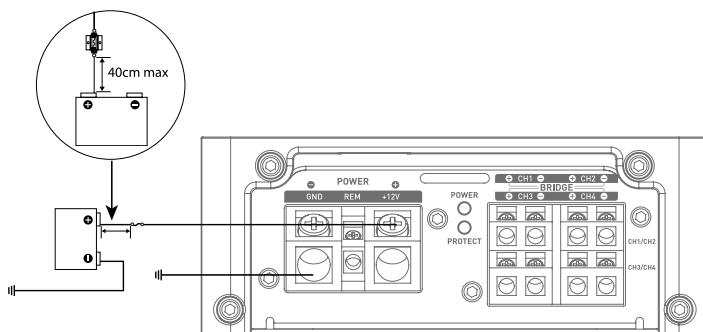

fig.7
- 9 - Always use fuses to protect the battery and the electrical circuit from any potential damage. Install a fuse-holder and an appropriate fuse in the 12V+ power supply cable less than 40cm from the battery terminal. Ideally, this distance should be as short as possible (*Fig. 7*).
Solder and insulate (using heat shrink sleeving) the positive (+) power cable to the FPX amplifier connector supplied (**Fig. 7**).